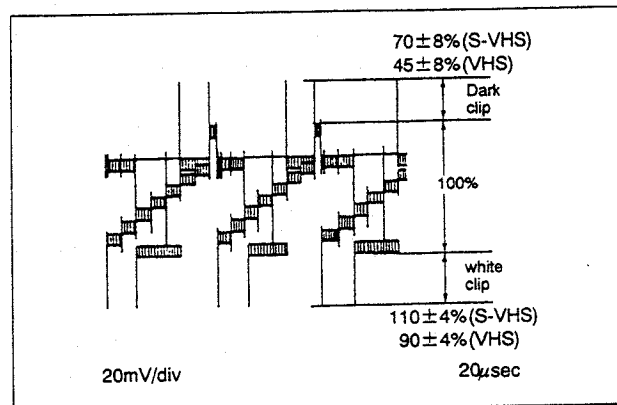

Fig.3-4-4 White/dark clip
- (1) Connect an oscilloscope to TP205.
- (2) Set EVR mode by pressing "K" button of the presetting unit more than 2 seconds.
- (3) Set "A : 14" pressing 1 and 4 numeric keys of the remote controller.
- (4) Adjust TV PROG "-" or "+" button for $110 \pm 4\%$ (S-VHS), $90 \pm 4\%$ (VHS) white clip and $70 \pm 8\%$ (S-VHS), $45 \pm 8\%$ (VHS) dark clip as shown in Fig.3-4-4.
- (5) Set normal VCR mode by pressing "K" button of the pre-setting unit again so adjustment data is memorized.